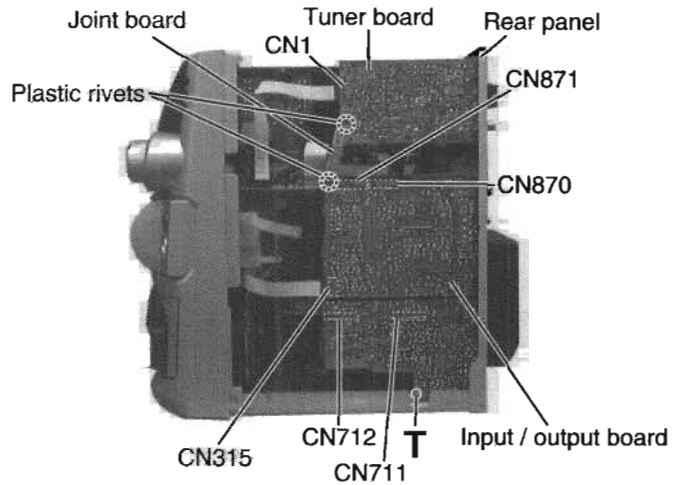

Fig.21
(See Fig.21 and 22)
8. Remove the tuner board in case of necessity (Refer to Fig.21 and 22).
1. Remove the input / output board (Refer to Fig.21 and 22).